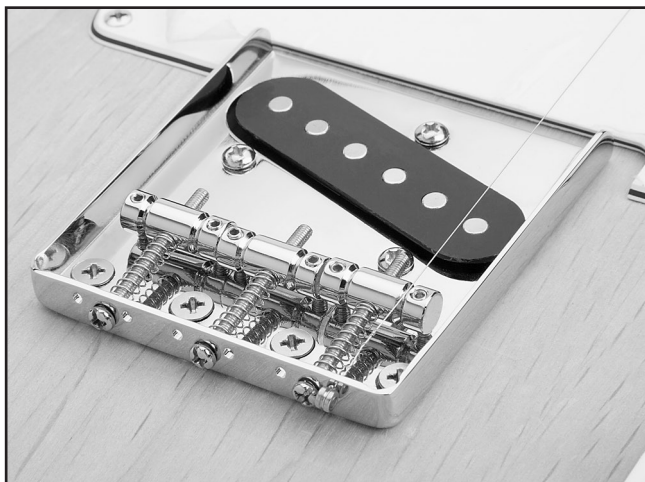

Figure 29. 1st string installed.
1. Slide the 1st string through the corresponding hole in the bridge (**Figure 29**).